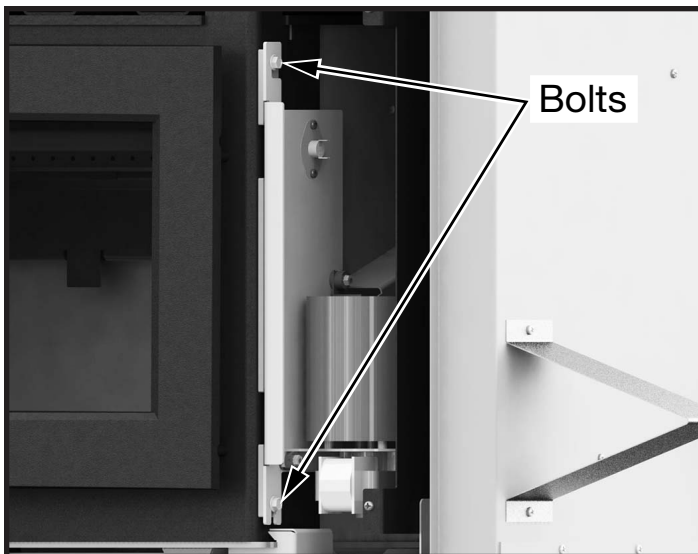

Figure 3: Removing mounting bracket bolts.
2. With a 3/8" wrench, loosen the two bolts securing the blower mounting bracket to the unit (Figure 3).